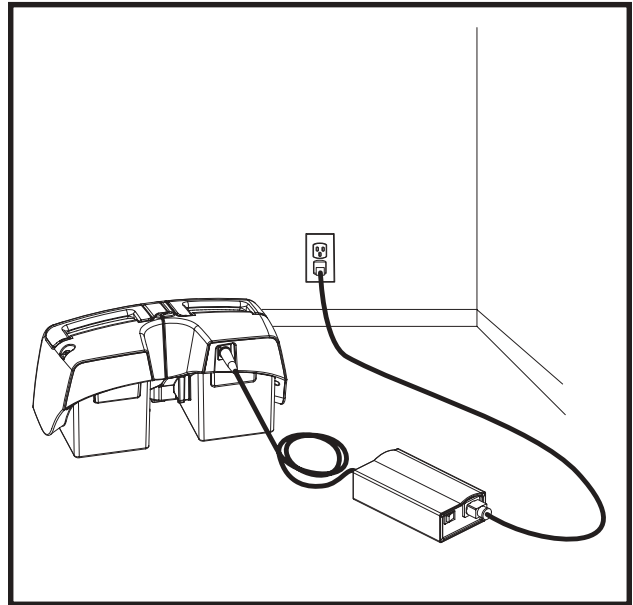

Figure 10B. Off-board Charging - Battery Boxes Removed From Scooter
1. Remove the battery boxes from the scooter and place them on a flat, dry surface in exactly the same positions as they are on the scooter. **See figure 10B.**